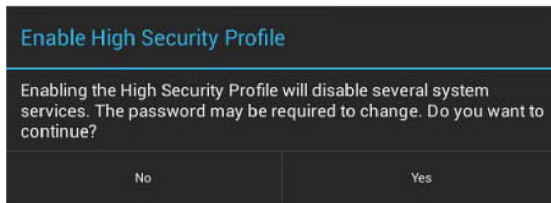

FIG. 96 Enable High Security Profile dialog
2. The panel will alert you to the fact that enabling the High Security profile will disable several system services, and that the password may need to be changed. Press **Yes** to proceed (FIG. 96):